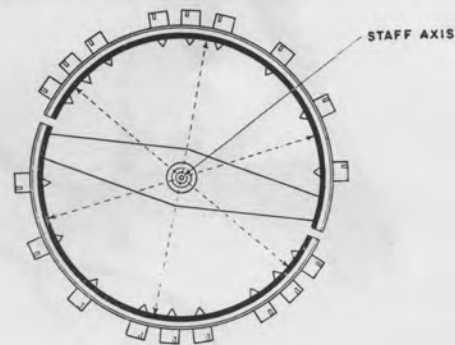

Fig. 10B
3. The entire rim must be concentric with the staff axis. Fig. 10B.